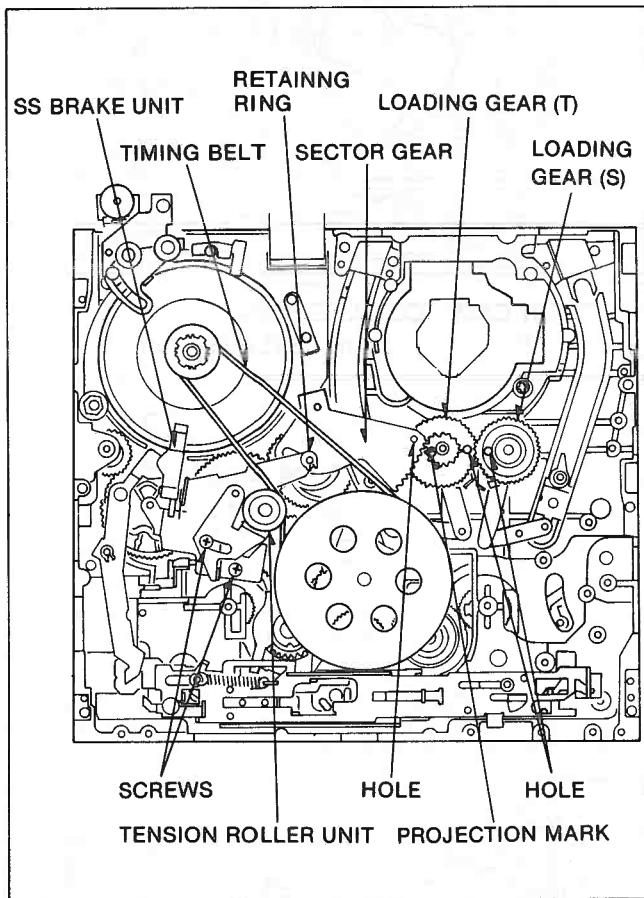

Figure M51
1. Set the P2 and P3 posts to fully unloaded position, then install the Loading Gear (T) and (S) so that the outer hole in the Loading Gear (T) aligns with the outer hole in the Loading Gear (S). (Figure M51)
2. Install the Sector Gear so that the outer hole in the Sector Gear aligns with the projection mark on Loading Gear (T). Then insert the retaining rings. (Figure M51)